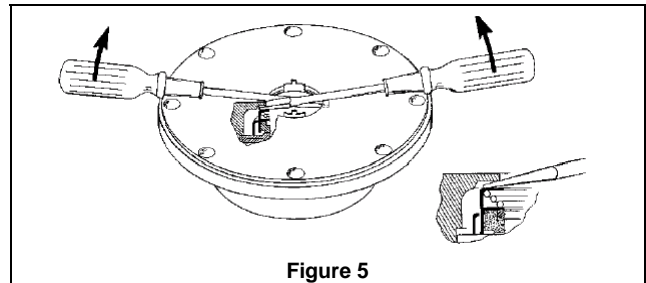

Figure 5
2. Remove the inboard bearing cover capscrews (28) and slide the inboard bearing cover (27A) and gasket (26) off the shaft. Discard the bearing cover gasket. The dirt shield (123A) will come off with the bearing cover.
3. Remove the outboard bearing cover capscrews (28) and slide the outboard bearing cover (27A) and gasket (26) off the shaft. Discard the bearing cover gasket.
5. Remove the head capscrews (21) and carefully pry the head (20) away from the cylinder.
6. Slide the head off the shaft. The head O-ring (72), bearing (24), and mechanical seal (153) will come off with the head assembly. Remove and discard the head O-ring.
- a. Pull the bearing (24) from the housing in the head.
- b. To remove the **mechanical seal** (153), use two screw drivers to gently push the backside of the seal jacket to push the seal from the head (see Figure 5). Use care when placing the screwdrivers to prevent damage to the seal faces. Remove and discard mechanical seal O-rings.